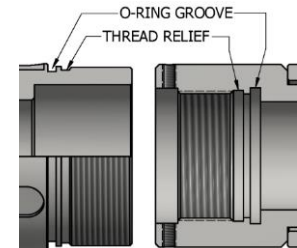

Fig 3
**CAUTION4:** To ensure tool operates properly, install o-rings in o-ring grooves **NOT** thread reliefs (Fig 3).